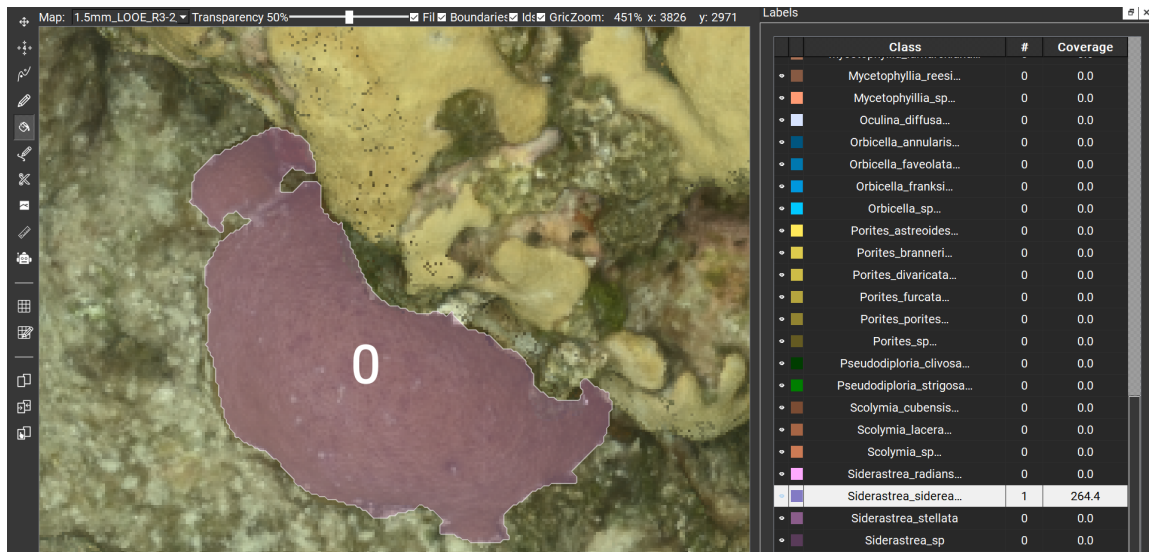

Figure 139. Example of annotating or assigning a label to a coral colony.
2. Double-click on a segmented coral colony to add the class label annotation. The segmented coral colony will be filled with the color corresponding to the selected class from the Labels pane (Figure 139).